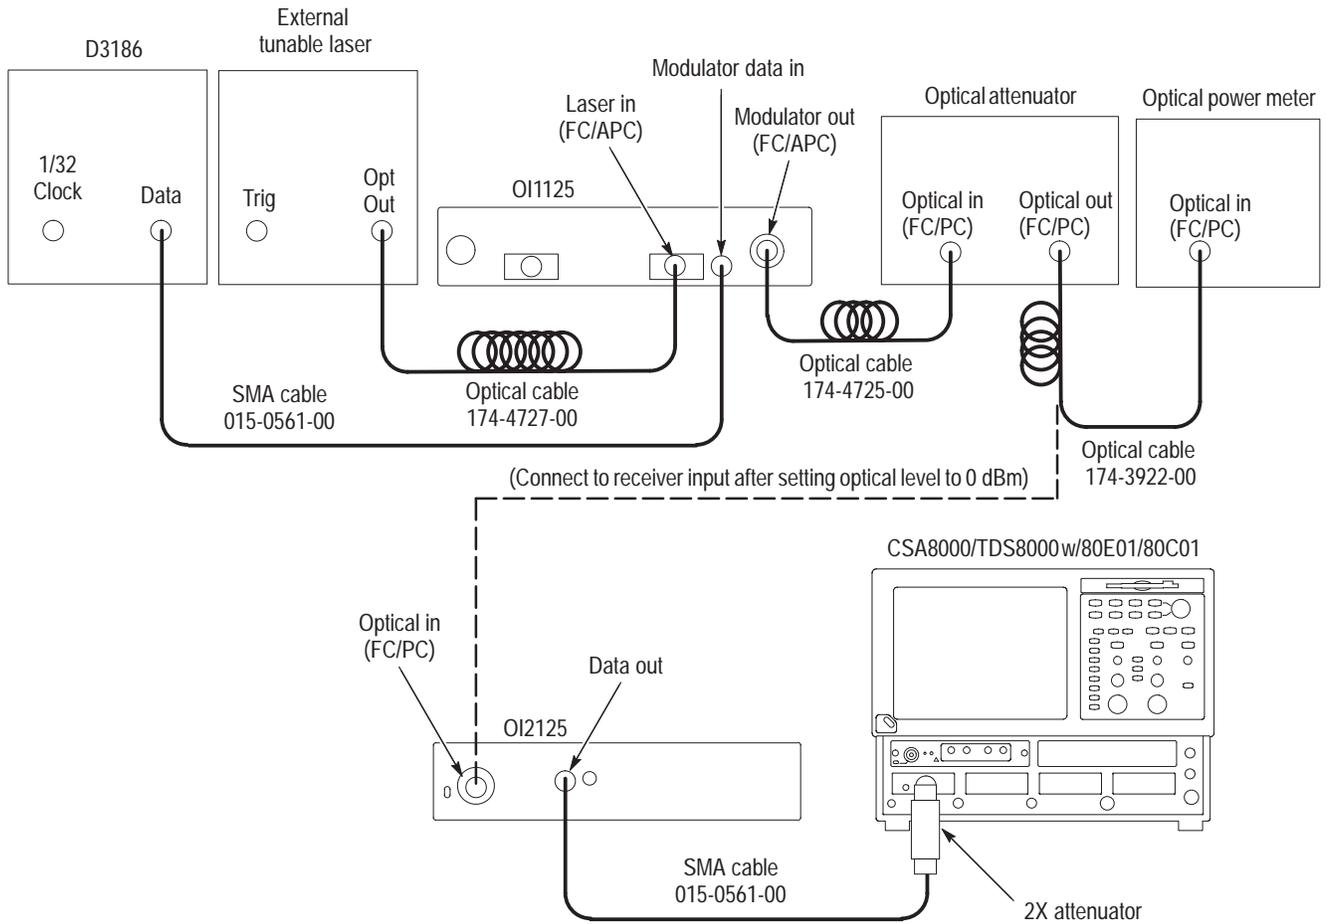

Figure 16: Setup for the eye pattern test matrix
Test Circuit Connect the equipment as shown in Figure 16 on page 46. A torque wrench is recommended for securing the SMA connections to 7 to 10 lb-in (79 to 112 N-cm).
4. Disconnect the optical cable from the power meter, and connect it to the receiver. (See dashed line in Figure 16 on page 46).